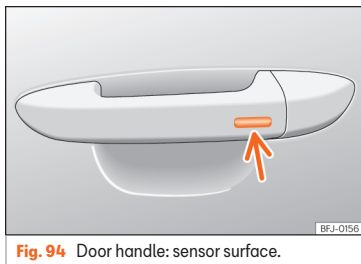

Fig. 94 Door handle: sensor surface.
- Press and hold the locking sensor surface **» Fig. 94** (arrow) on the door handle to close the sunroof. If you release the sensor surface, the closing movement stops.